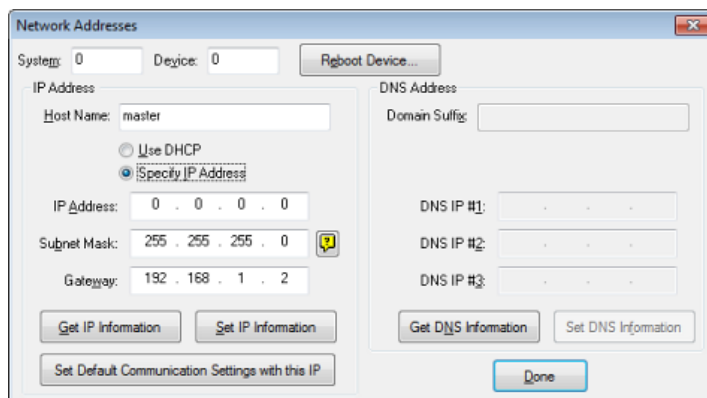

FIG. 11 Network Addresses dialog (Specify IP Address)
6. To specify a network IP address (FIG. 11):